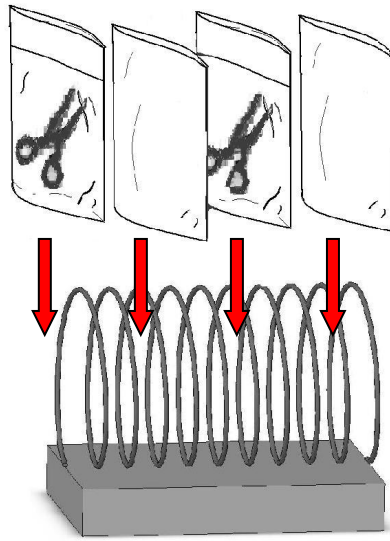
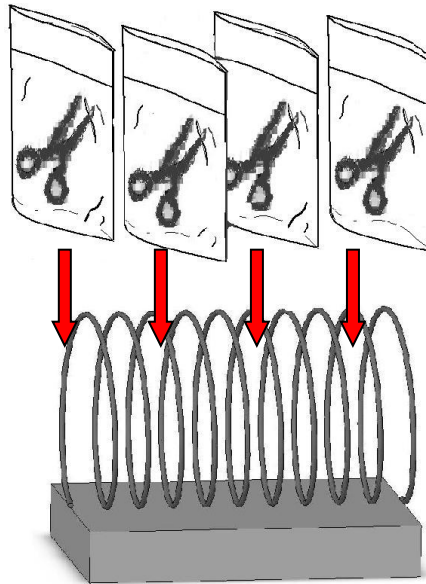

Figure 54
Figure 55
**Warning:** We suggest using Spring Holder for items with sterilizing pouches to assure sterilization result. Follow Figure 54 or Figure 55 to place each pouch separately. Spring holder is available as an optional accessory.